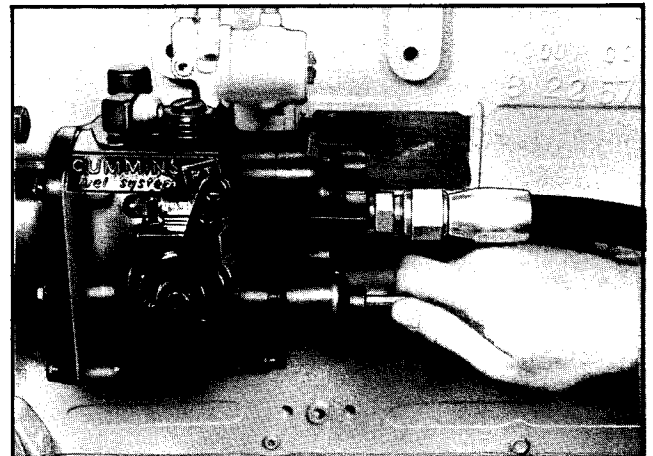

Fig. 4-31. Setting idle speed
2. Remove pipe plug from spring pack cover. Fig. 4-31.